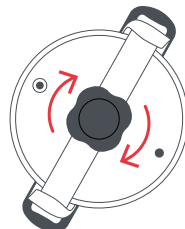

Fig. 9
3 Turn the knob (33) clockwise (Fig. 9). Close it completely by turning the knob (33) between 1½ and 2 turns, until the clamp bar (35) remains fixed under the clamp hooks (37) and the lid (1) is fully closed.